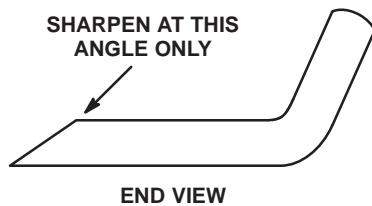

Figure 37
3. Examine the cutting edges of all blades. Sharpen the cutting edges if they are dull or nicked. Sharpen only the top side of the cutting edge and maintain the original cutting angle to ensure sharpness (Fig. 37). The blade will remain balanced if the same amount of metal is removed from both cutting edges.